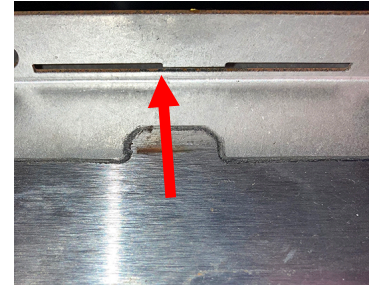

Figure 21
23. Reverse steps to reassemble. Ensure when replacing the bezel, the tabs are inserted into the top slots (see Figure 21).